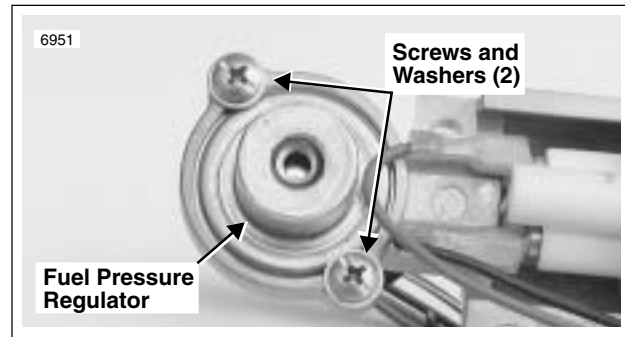

Figure 4-97. Fuel Pressure Regulator
2. See Figure 4-97. Remove two screws and washers holding fuel pressure regulator in place. Detach regulator from pump housing.